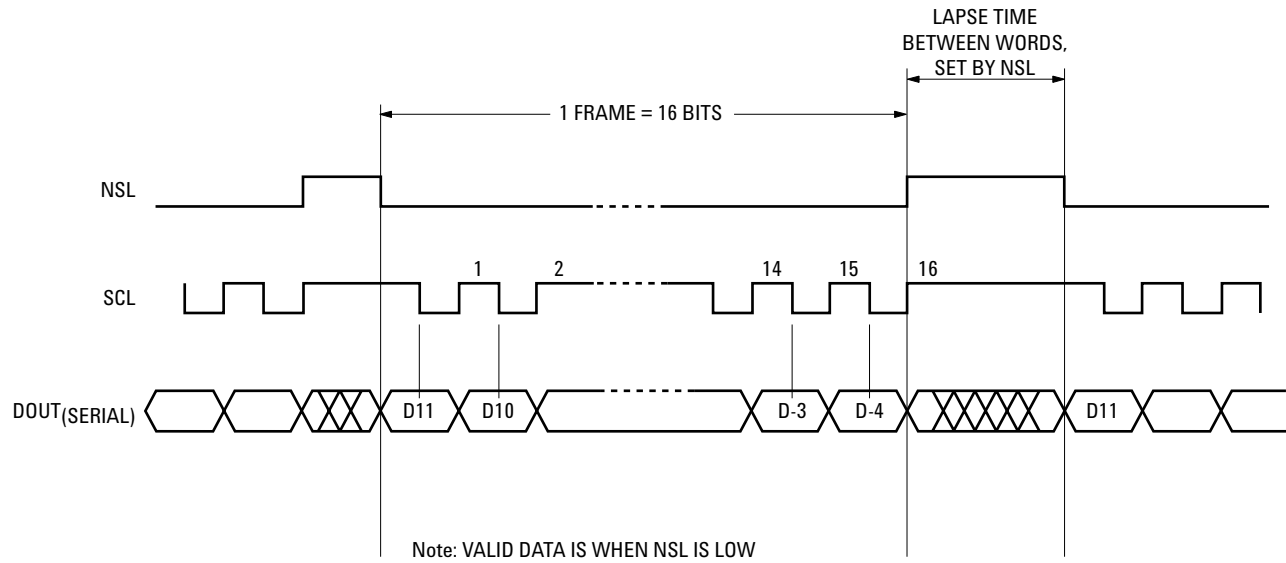

Figure 2. Timing diagram.
- 1) After powering up the unit using  $V_{CC} = +5\text{ V}$  and connecting GND to ground, trigger input pins NSL and SCL using the timing diagram below (Figure 2). NSL is a control pin for the internal shift register. When triggered to low and combined with clock pulses, the serial Gray code will be shifted out to DOUT bit by bit per every clock pulse